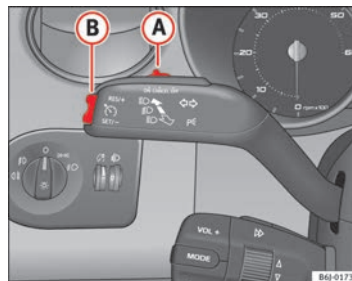

Fig. 121 Turn signal and main beam headlight lever; switch and rocker switch for the cruise control
- Press the lower part **SET** of the rocker switch ⇒ Fig. 121 (B) once briefly when you have reached the speed you wish to set.